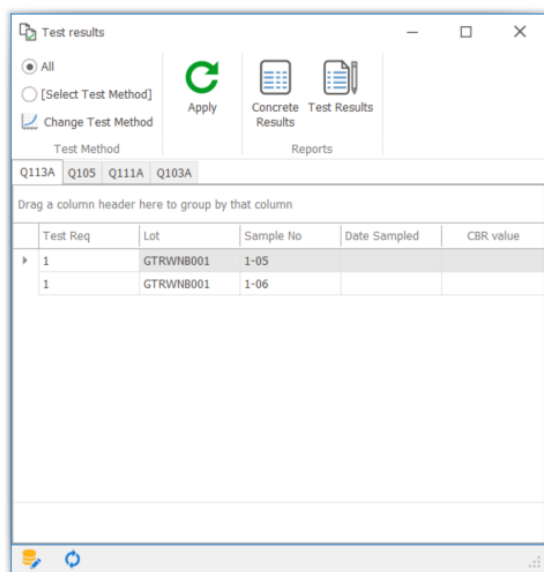

Figure 103 Test Results Dialog
- The Test Results dialog will open as in Figure 103. Note that there are 4 different tabs. One for each of the test types for this specific test. Each Test Type has the same first 4 columns - Test Req, Date Sampled, Lot and Sample No. Additional columns are added to each Test Method in the Test Method Register.